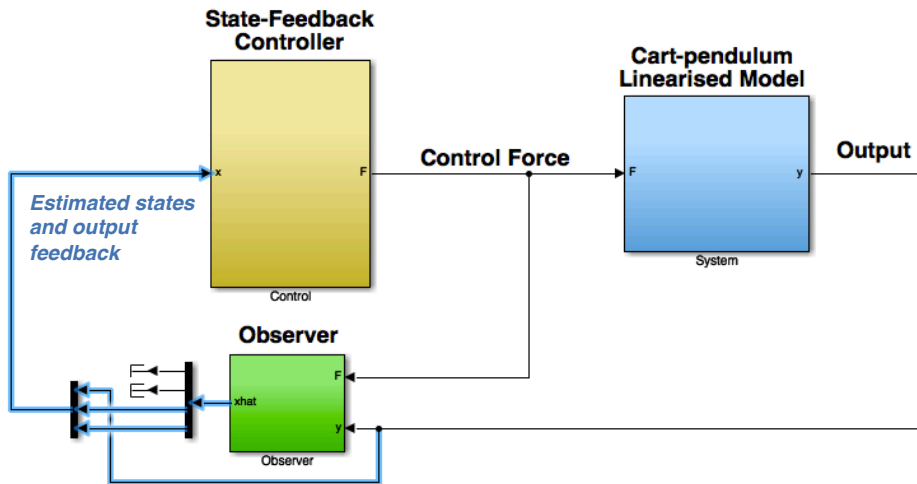
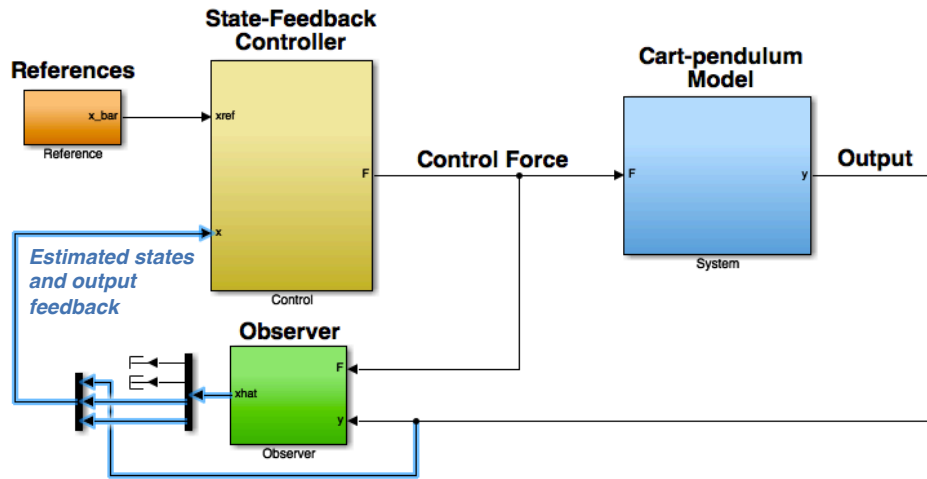

Figure 2: Linearised control system.
Figure 3: Nonlinear control system.
The task in this section is to design a control system to stabilise the desired equilibrium  $\bar{x}_a$  using the linearised model under the assumption that the position of the cart and the angle of the pendulum are the only measurements available. Consider the controller and the observer designed in previous labs and use the states estimated by the observer to close the loop for the linearised model and the nonlinear models as shown in Figure 2 and Figure 3 respectively.
- Linearised control system.* Build a Simulink model of the linearised system in closed loop with the state-feedback controller and the observer designed in Lab 05 and Lab 06. Use the estimation of the system states  $\hat{x}$  and the measurements to close the feedback loop. An example of the Simulink model is shown in Figure 2. Save your model as `CP_ContrSys_Lin_a_yourstudentnumber.slx`.
- ii) *Nonlinear control system.* Build a Simulink model of the nonlinear system in closed loop with the state-feedback controller and the observer designed in Lab 05 and Lab 06. Use the estimation of the system states  $\hat{x}$  and the measurements to close the feedback loop. An example of the Simulink model is shown in Figure 3. Save your model as `CP_ContrSys_NLin_yourstudentnumber.slx`. Contemplate the possibility of parametrising the controller and observer of the nonlinear control system for either the equilibrium  $\bar{x}_a$  or the equilibrium  $\bar{x}_b$ .